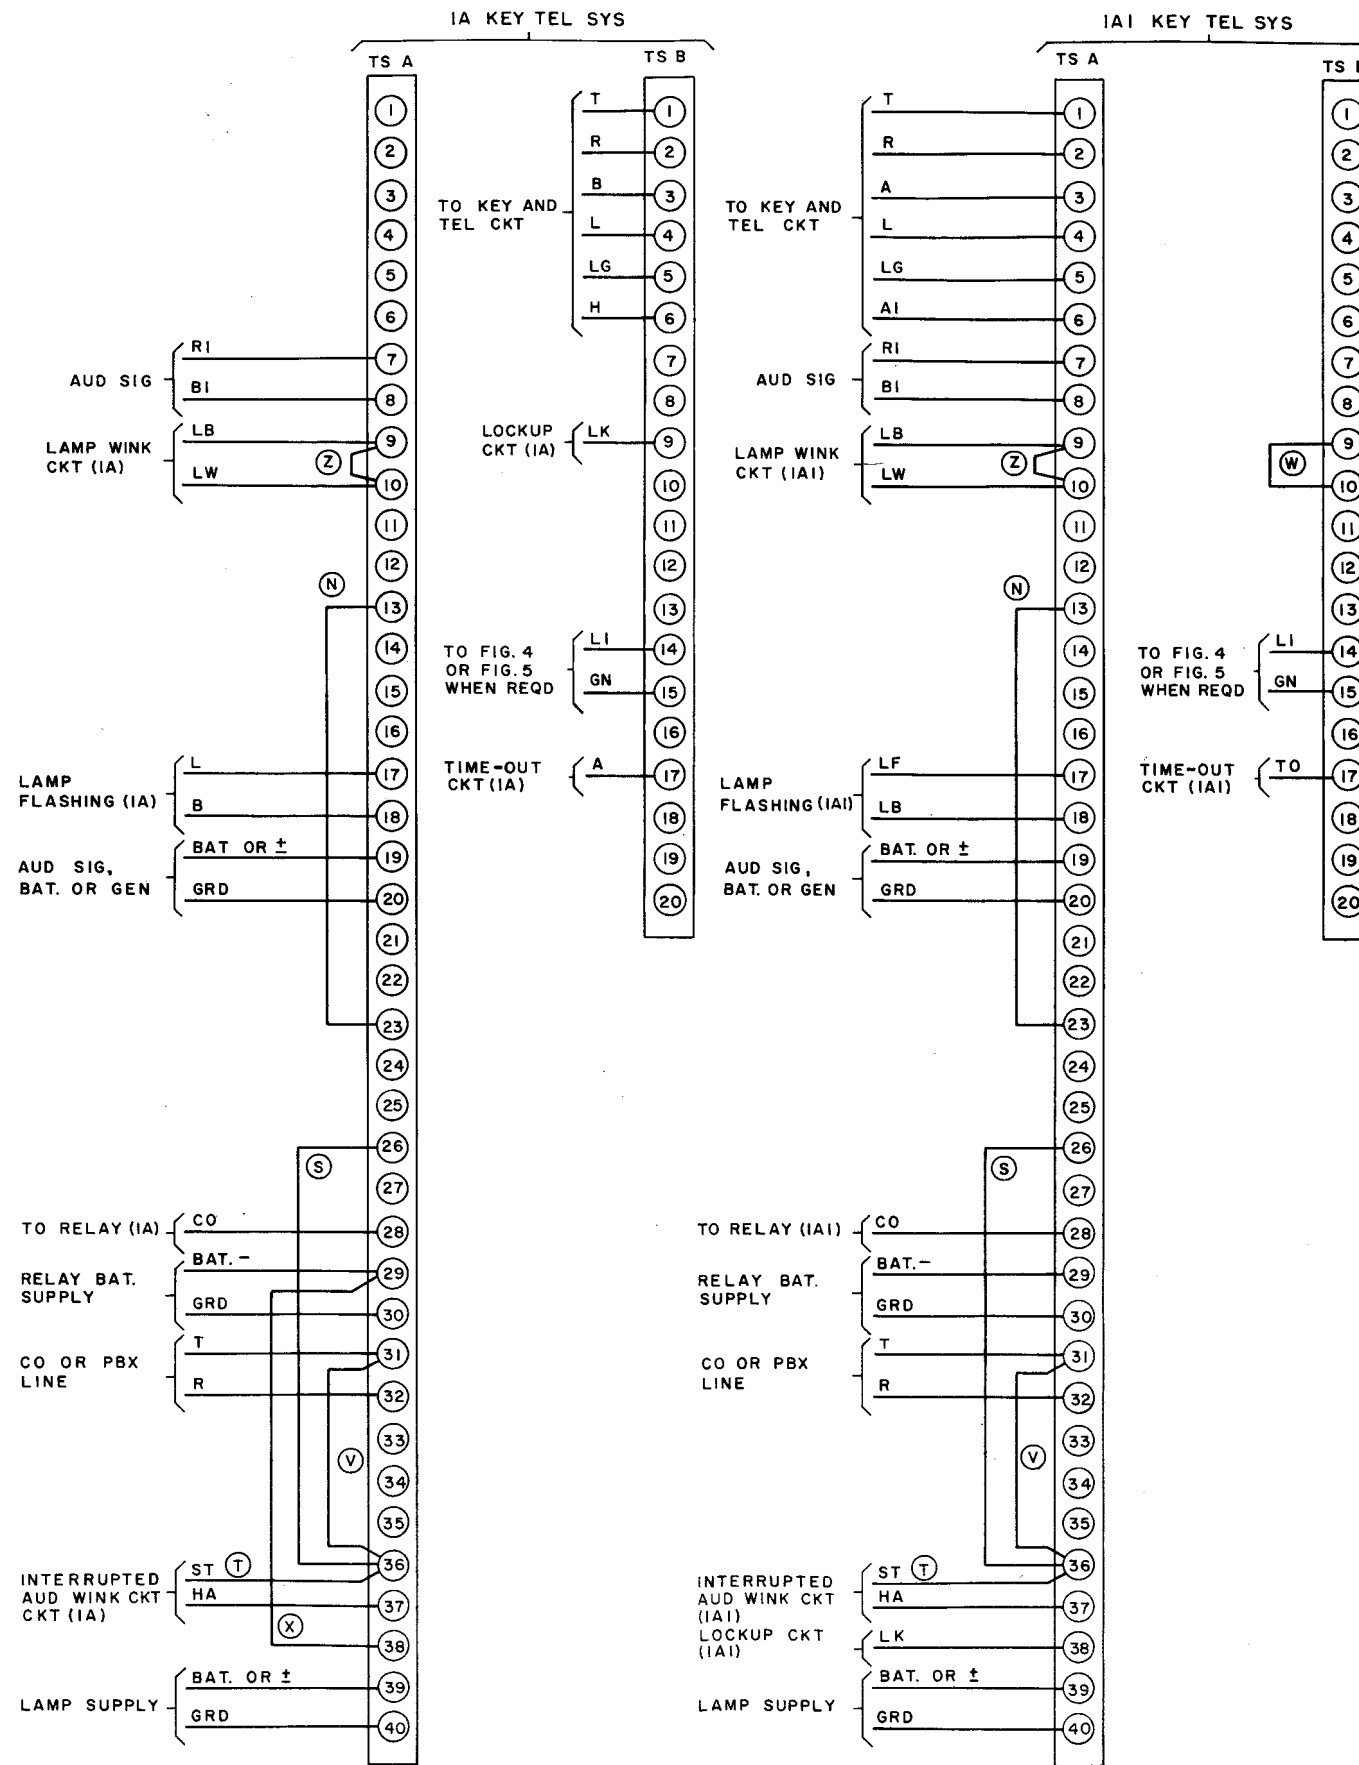

Fig. 6 - 213B KTU Connection Data Used on No. 1A or No. 1A1 Key Telephone System
2.01 Fig. 6 and 7 show necessary terminations to be made for incoming lines, power supply, straps within and between key telephone units, and key or running cables to the stations.